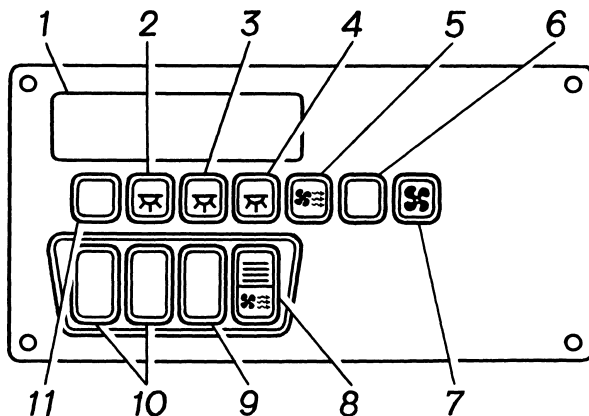

Fig. 7.3. Medical Compartment Equipment Control Panel
- control panel (see Fig. 7.3.) of medical compartment equipment mounted in the front entresol near splitter plate;